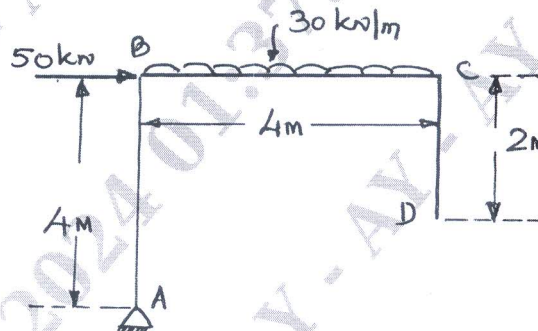

Fig.Q8(a)
- 8 a. Determine the vertical deflection at the free end 'D' for the frame as shown in Fig.Q8(a) by using Castigliano's theorem. Take $EI = 16 \times 10^4 \text{ kN-m}^2$.